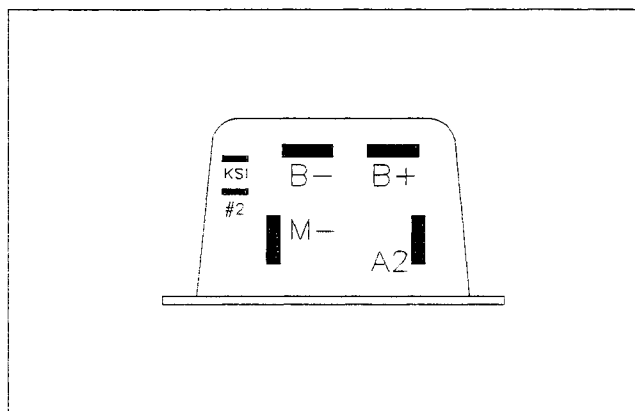

Figure 3-32
- a) Test voltage at PIN #2 on the PMC (see figure 3-32). If not 6-6.5 V, then go to 'ACCELERATOR MODULE' section.